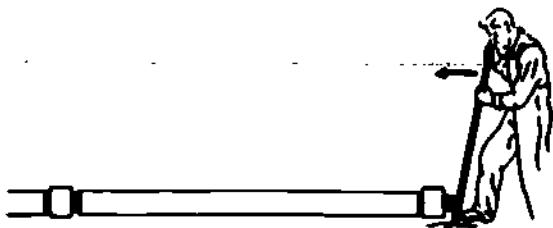

Figure 1-78. Method for Hand Levering
- c) In pipe sizes under NPS 8, or 200 mm, and when a mechanical puller is not available, the pipe and fittings can be assembled with a bar and block of wood as illustrated in Figure 1-78.